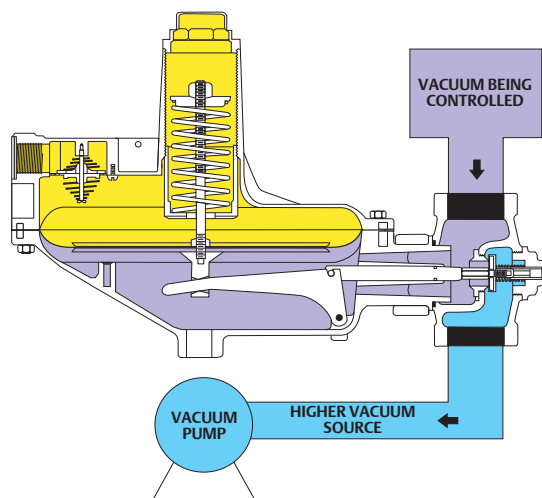

Figure 4. Y612A Series Vacuum Regulator Construction
1. With spring case above the diaphragm as shown in Figure 4. With spring case below diaphragm, range 0.6-inch w.c. / 1 mbar lower in each end.